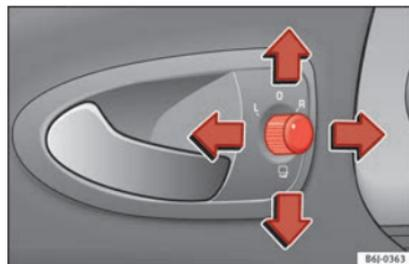

Fig. 139 Exterior mirror controls.
1. Turn knob » **Fig. 139** to position **L (left exterior mirror)**.
- Turn the control » **Fig. 139** to position  to fold in the exterior mirrors. You should always fold in the exterior mirrors if you are driving through an automatic car wash. This will help prevent damage.